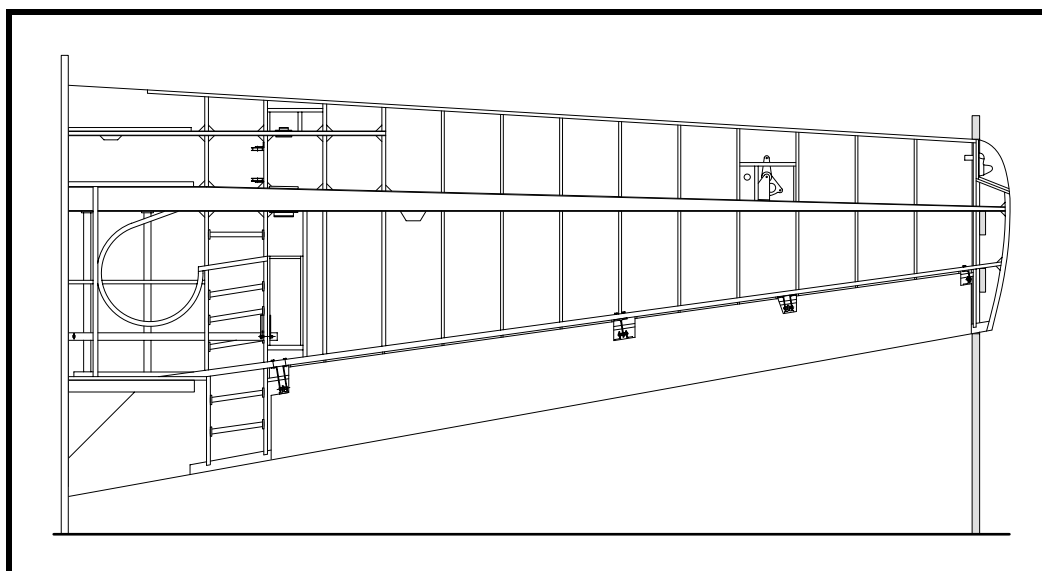

Figure 39
- ❑ As shown in Figure 39, cut the bottom skin for the landing gear nut access panel, for the wheel well and for the access panel between Sta. 2 and 2-1/2.